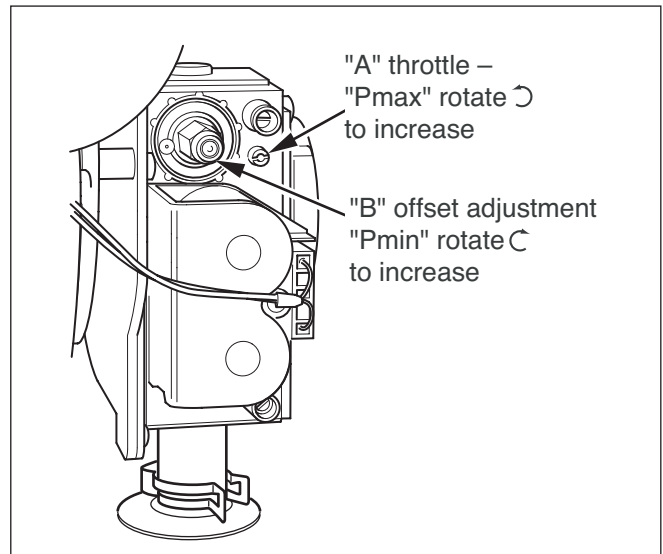

Fig. 9.2 Gas control valve
- If necessary, set the corresponding flue gas value (value with removed appliance front, see table 9.1) by turning "A" throttle, see fig 9.2.